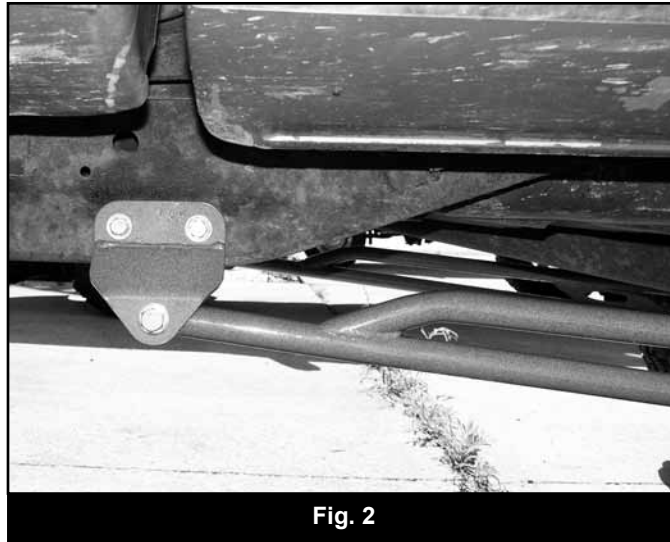

Fig. 2
9. Place the bracket up to the frame and align the holes with the newly drilled holes in the frame. Fasten the bracket to the frame with 3/8" x 1-1/4" bolts, nuts and 5/16" USS washers (Fig 2). Torque bolts to 30 ft-lbs.